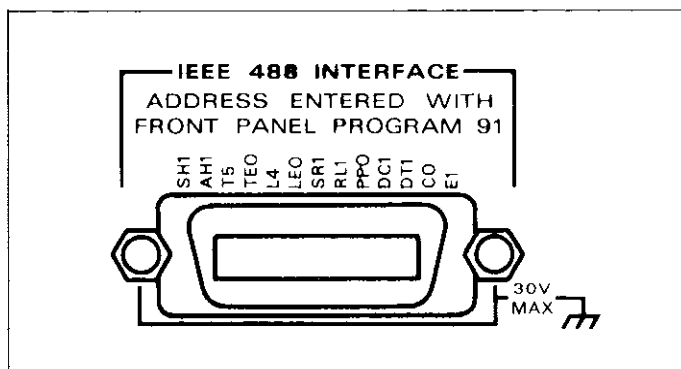

Figure 3-7. Model 193A IEEE-488 Connector
1. Line up the connector on the cable with the connector on the rear panel of the instrument. See Figure 3-7 for connector location.